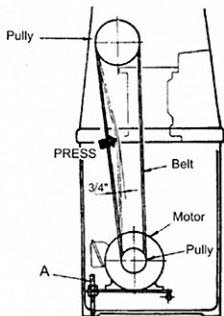

Fig.26
3. Take tension off old belts by loosening two motor mount plate screws(A, Fig.26).